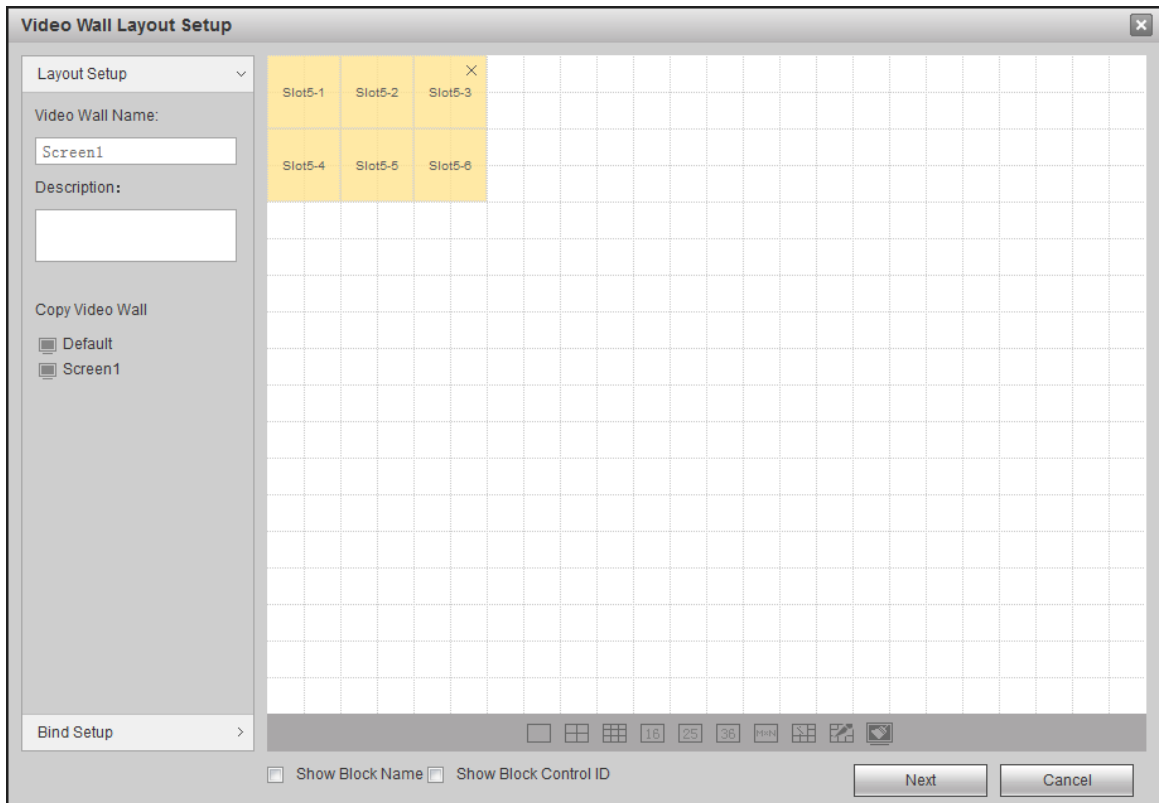

Figure 4-99
Step 5 Hold the left mouse button, drag the slot into screen, so as to bind the slot channel with screen, as shown in Figure 4-99.